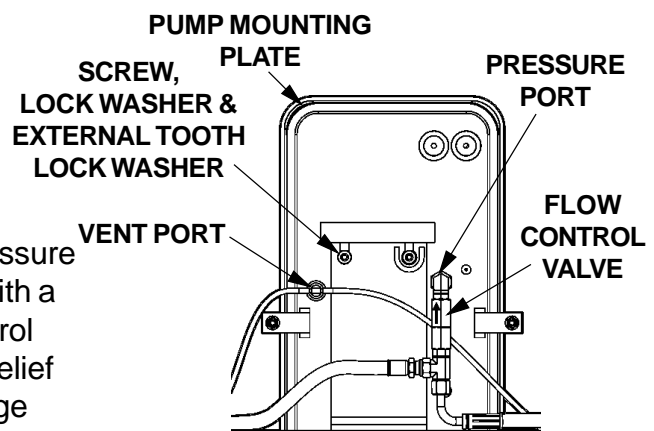

FIG. 47-3
2. Check the Hydraulic Cylinder. With the Platform on the ground, remove the Breather Plug or Vent Line from the Vent Port of the Cylinder (**FIG. 47-3**). Raise the Platform even with the bed. Allow pump motor to run two seconds more while you watch for hydraulic fluid at the Vent Port. A few drops of hydraulic fluid escaping the Vent Port is normal; however, if it streams from the Vent Port, Piston Seals are worn. Replace Seals.
3. Check and clean Flow Control Valve in high pressure hydraulic line attached to Pump Mounting Plate. When installing Flow Control Valve, make sure it is pointing to the direction of restricted fluid flow (pointing up and back toward pump) (**FIG. 47-3**).
5. Verify the Pump Motor is grounded to vehicle frame. Make sure external tooth lock washer is installed under Pump mounting screw and flat washer (**FIG. 47-3**).